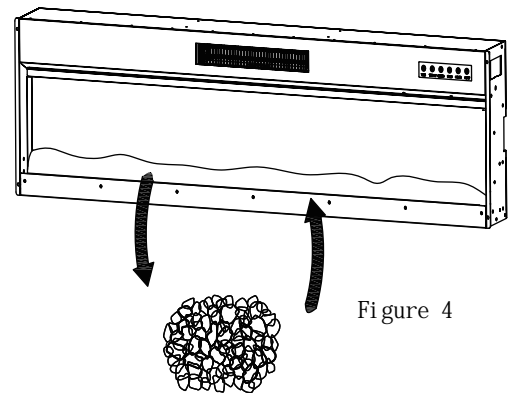

Figure 4
(4) If decorative crystal media is preferred, carefully remove the log media, cover and store the log media in a safe place. Install the decorative crystals by placing them on the tray inside the fireplace. (Figure 4)